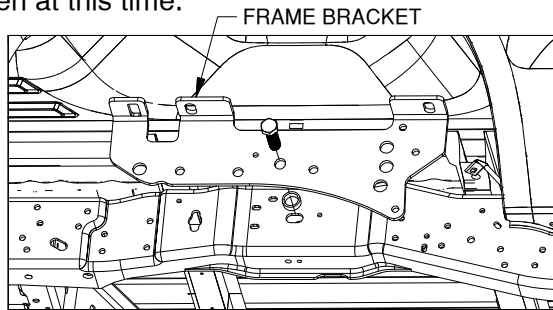
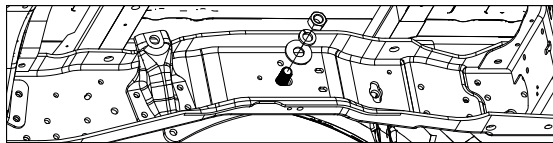

Figure B1: View looking into passenger side wheel well.
Figure B2: View under bed looking at the inside passenger side frame.
1. **Install 3/4" Bolt.** Start by locating a 3/4" X 2-1/2" cap screw, mounting washer, 3/4" flat washer, 3/4" lock washer, 3/4" finish nut. Pass the 3/4" cap screw through the frame bracket and install a mounting washer onto the cap screw on the other side of the frame bracket. While holding the cap screw and mounting washer in place, pass the cap screw into the frame of the truck, see figure B1. Attach the 3/4" cap screw with a 3/4" flat washer, 3/4" lock washer, and 3/4" finish nut, as shown in figure B2. Do not tighten at this time.